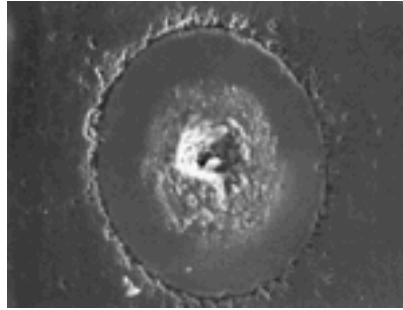

Fig 1. Optical connector damaged due to high optical power
1. Spray ISO on the special static proof wipe (Fig.1).